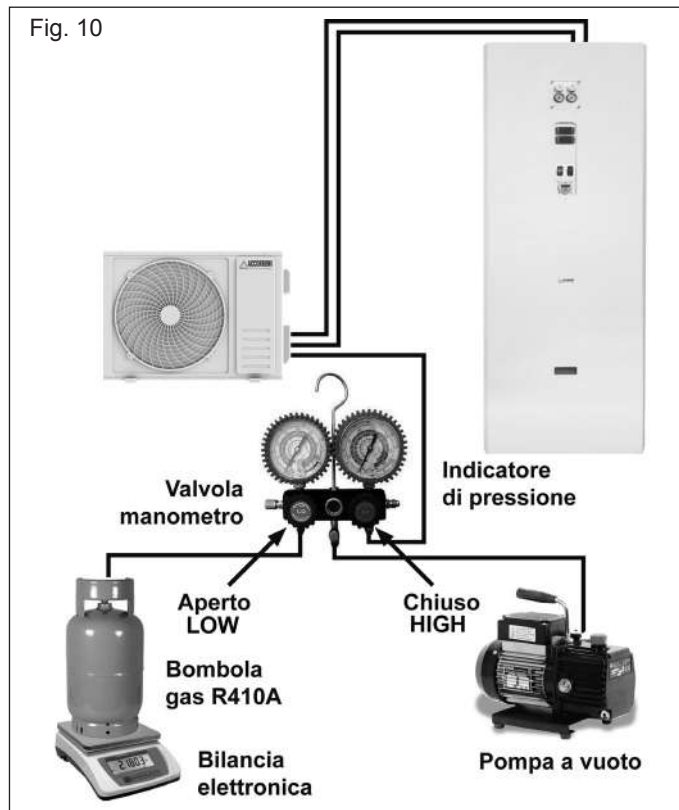

Fig. 10
3.4 ELIMINATION OF AIR WITH THE VACUUM PUMP (Fig 10)